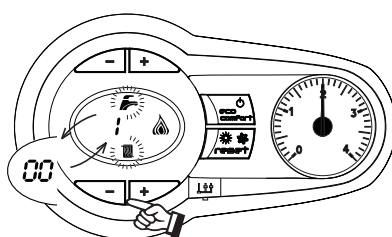

fig. 28 - Test Mode
1. To operate the boiler in test mode, press the CH keys together for 5 seconds (see fig. 28)